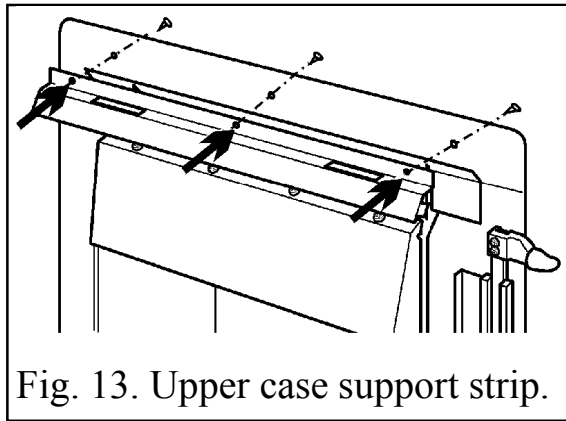

Fig. 13. Upper case support strip.
7. Fit the upper case support strip to the top of the convection box, using three screws inserted from the back of the appliance. See figure 13.